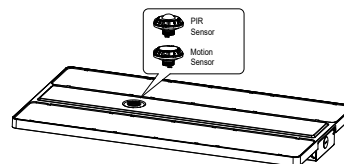

Figure 10
Step 2. Twist-lock the DC sensor to the base to make it work properly. Use a remote control to adjust the working mode as per demand. (Figure 10)